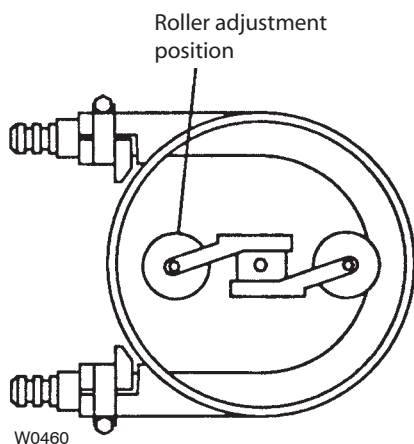

Figure 6
2. See Figure 6. Loosen all roller bracket screws and slide both rollers away from the hose to reduce compression on the hose. Retighten all roller bracket screws.